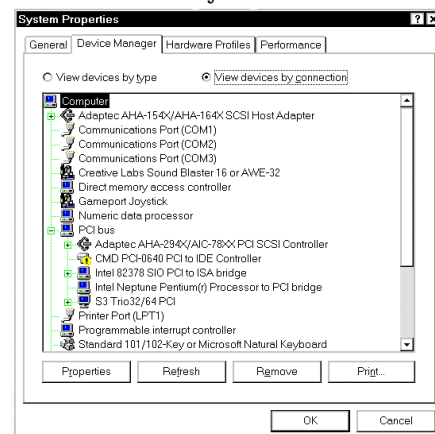

Figure 9, View Devices by Connection
4. With Computer highlighted, select View Devices by Connection, (Figure 9).